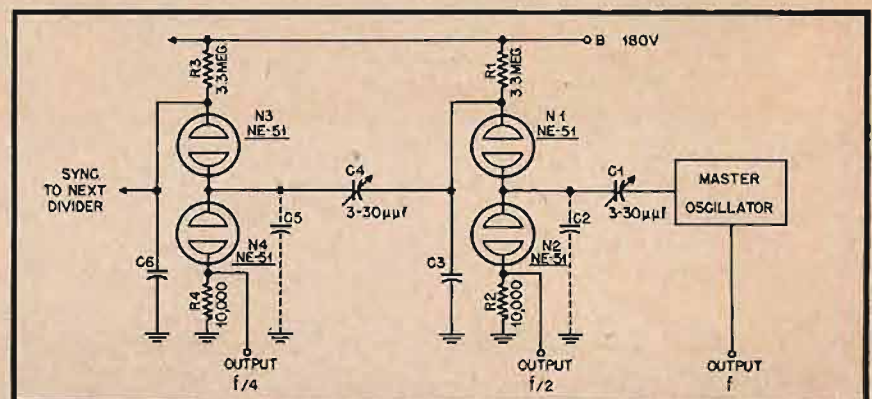

Fig. 1
The way the new invention works is illustrated by the schematic diagram of Fig. 1. Two neon oscillators, that is, two stages of a frequency-divider chain, are shown. Each consists of two neon lamps ( $N_1$  and  $N_2$  in the upper-frequency stage), connected to ground through  $R_2$ , a small load resistor, and to plus 180 volts through  $R_1$ , the timing resistor. The timing capacitor is  $C_2$ . The circuit as so far described will be recognized as an ordinary relaxation oscillator. When B-voltage is applied,  $C_2$  charges through  $R_1$ . When the voltage is sufficient across  $C_2$  to reach the combined firing potential of both lamps, they fire. When unfired the lamps are open circuits; when fired their fairly low resistance short-circuits the timing capacitor  $C_2$ , discharging it. The waveform produced across  $C_2$  is sawtooth; however, the usual sharp drop to zero after the gradual rise is somewhat slowed due to  $R_2$ , which delays the discharge slightly just as  $R_1$  delays the charge to a much greater degree. The "flyback" time of the wave is therefore quite finite rather than being nearly zero as it would be without  $R_2$  (the bottom of  $N_1$  grounded). In Fig. 2, (A) shows what the voltage across  $C_2$  looks like. Since current flows through the lamps and  $R_2$  only during the discharge pulse, the voltage across  $R_2$  is as shown in (B) of Fig. 2 and it is used for output. Output could, of course, be taken from other points to obtain sawtooth voltage, but all other points are at high impedance or would tend to affect frequency of operation, which is one of the drawbacks of neon oscillators.